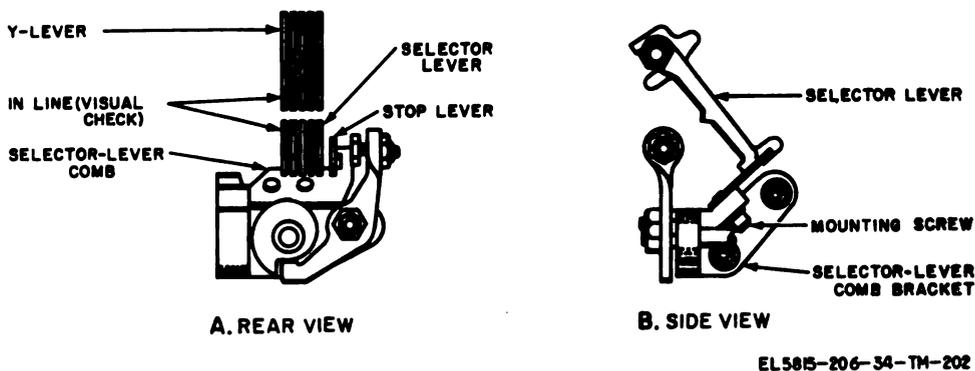

Figure 3-130. Selector-lever comb adjustment.
a. Requirement. The selector levers and Y-levers should be aligned, and there should be no binding between the selector levers and the selector lever comb (A, fig. 3-130).
b. Adjustment. Loosen the two mounting screws (B, fig. 3-130); position the selector-lever comb to meet requirement (*a* above) (be certain that the comb is against the milled surface of the selector-lever-comb bracket); and tighten the mounting screws. Check the related adjustment (para 3-170).